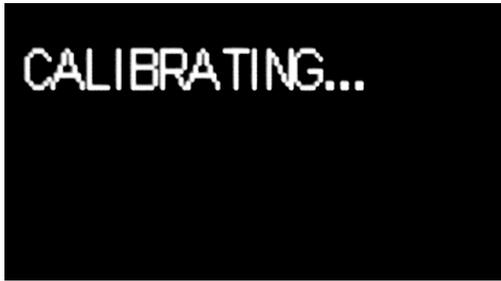

Figure 2-13: Calibration in Progress
4. Once any button is pressed, Figure 2-13 shows on the display indicating open calibration is in progress.